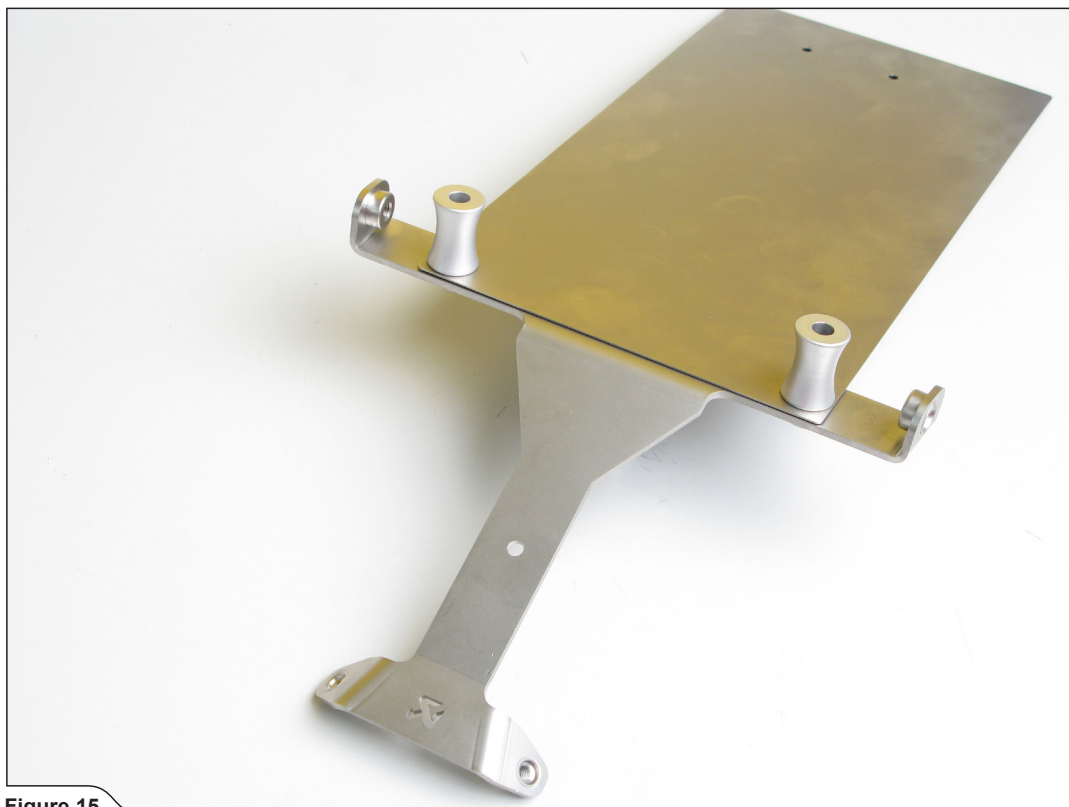

Figure 15
3. **For optional mudguard only:** correctly assembled Akrapovič mufflers bracket and optional mudguard (**Figure 15**).